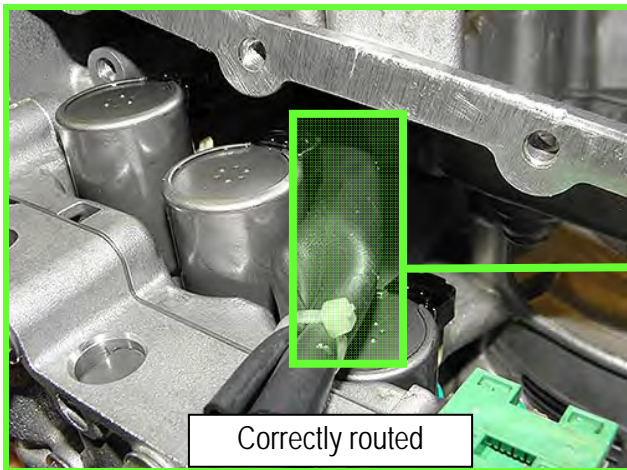

Figure 4D
5. Install the valve body with eleven (11) mounting bolts.
**IMPORTANT:** Leave Four (4)  bolt holes blank at this step.
**CAUTION:** Make sure the wiring harness does not get pinched (see Figures 4D and 5D for correct routing).